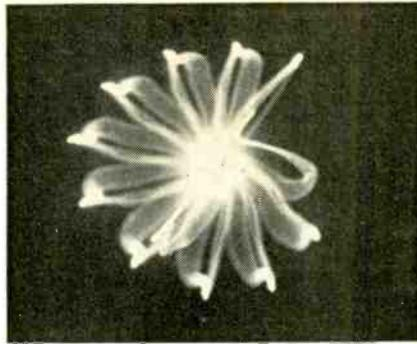

FIG. 12—THE "EXTRA PETALS" HERE may be part of the horizontal blanking pulse.
*Evaluation:* If we observe "extra" petals in the vectorgram pattern, as in Fig. 12, we should not jump to the conclusion that there is trouble in the demodulator or matrix circuits. In this example, the "extra" petals are actually part of the horizontal-blanking pulse, and are a normal part of the vectorgram display. To analyze the "extra" pulses, turn down the color-intensity control of